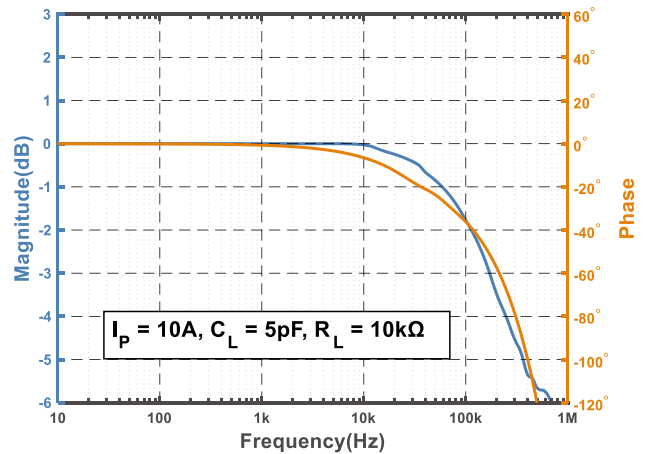

Figure 4. Bode plot of TMR7503-B
3. Excessive capacitive load may cause the distortion of output signals when the primary frequency is too high. Please refer to Figure 4.